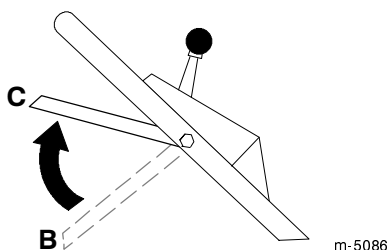

Figure 17
3. Bring the control bar up into the middle position about five inches (12.7 cm) below the handle cross bar (Position C in Fig. 17).
4. Release the control bar (Position B in Fig. 17).